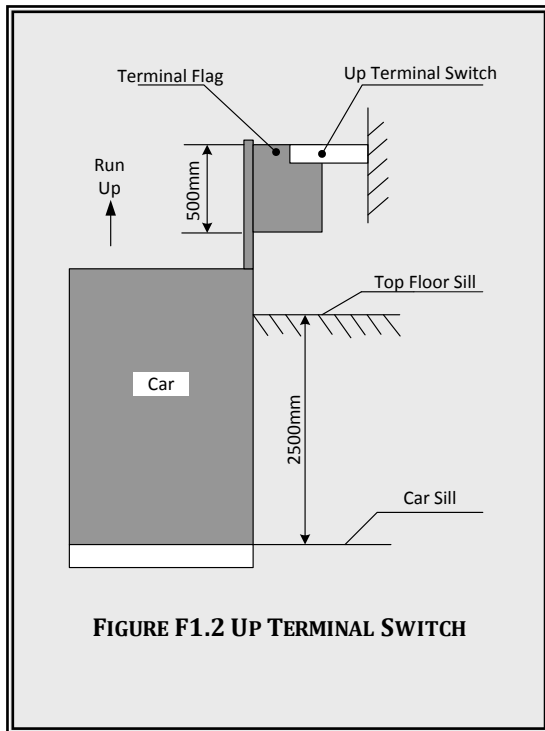

FIGURE F1.2 UP TERMINAL SWITCH
2. Up/Down terminal switches are installed in hoistway guide rail; terminal flag is installed on top of car. Their positions are shown below in Figure F1.2 & F1.3.